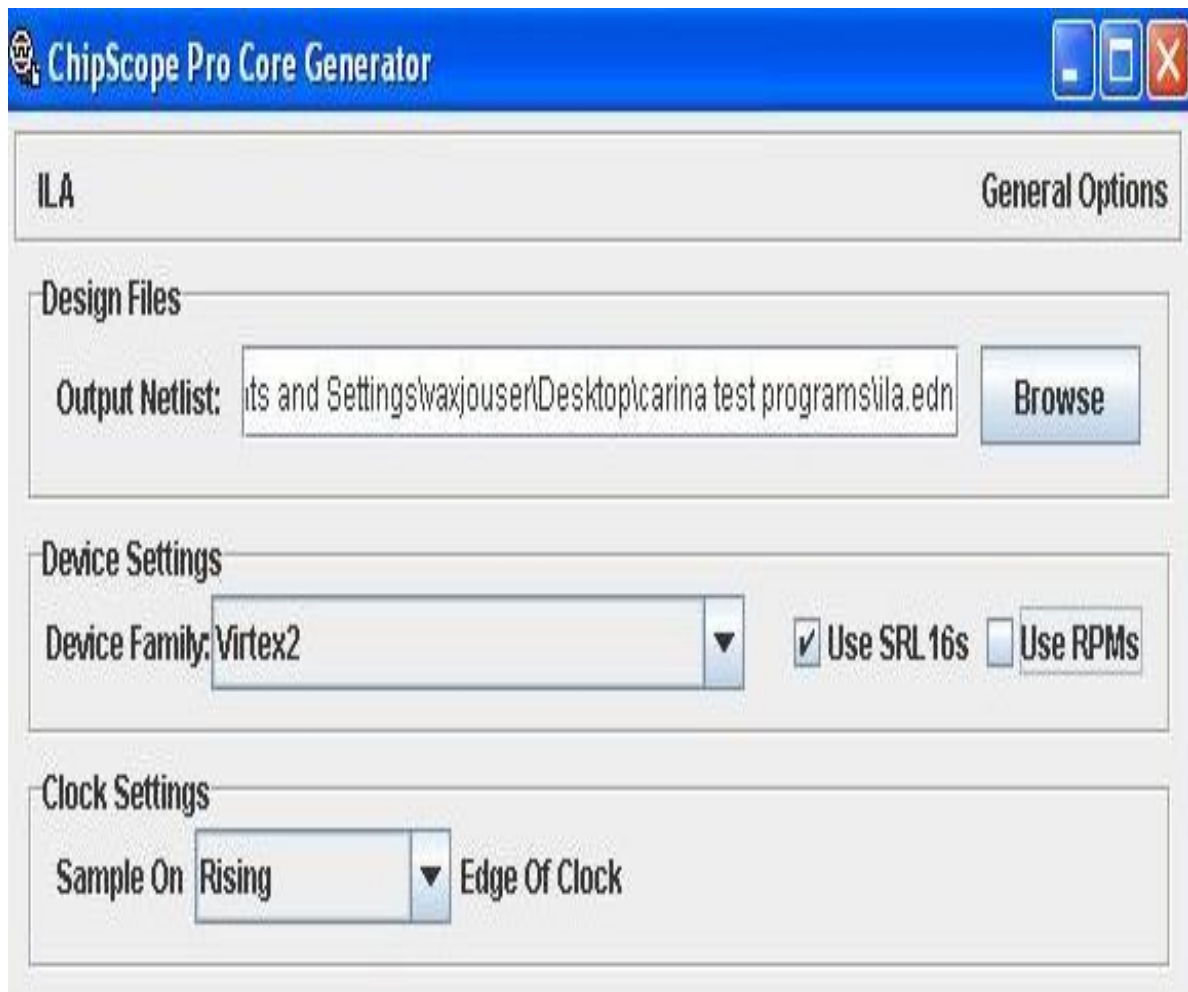

Fig 5.5: ILA Core settings
2. Now select the FPGA **Device Family** to appropriate device used in the project as shown in the Fig 5.5.